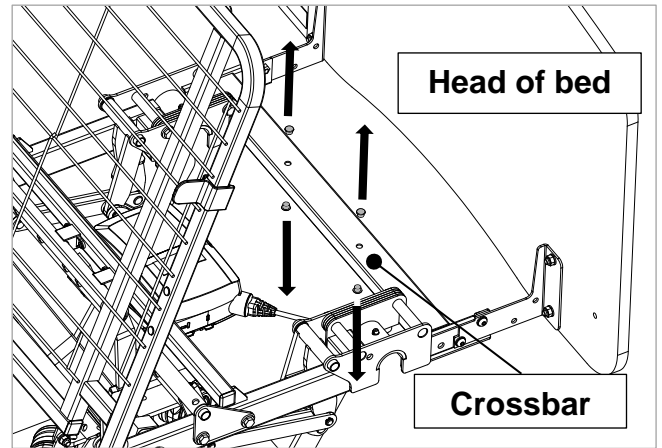

Figure 7.1
1. Remove the 4 caps from the holes in the frame crossbar and the head end of the bed as shown in Figure 7.1. Do not throw these caps away as they may need to be re-fitted if the Lifting Pole Bracket is removed later.